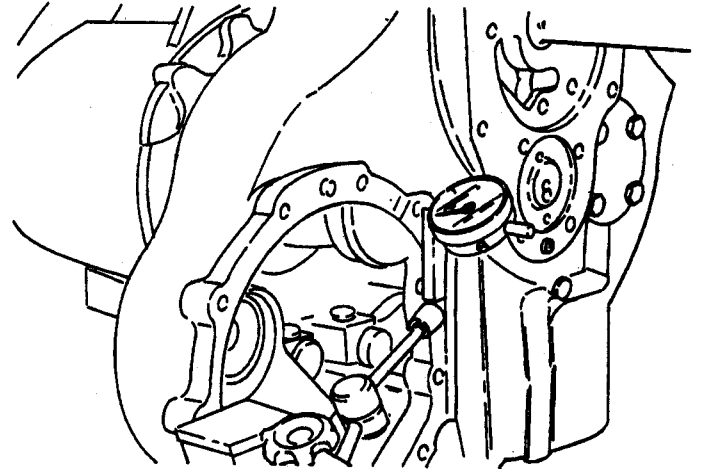

Figure 25.
21. Measure layshaft end float, which should be 0.001 to 0.003 inches (0.03 to 0.08 mm). (See Figure 25).